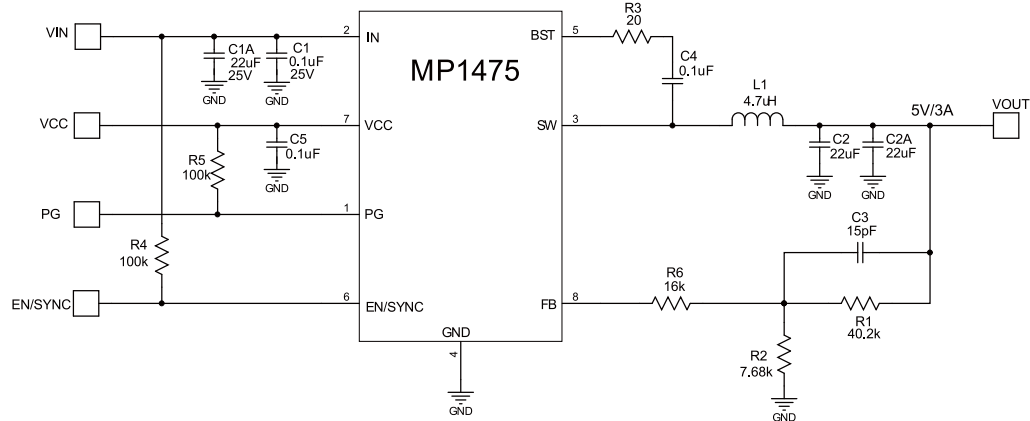

Figure 7: 12V_{IN}, 5V/3A Output
- 8) The recommended layout is based on the Figure 7 Typical Application circuit on the next page.